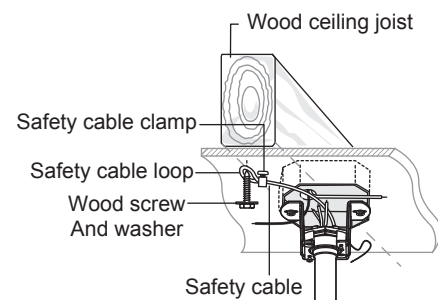

Fig. 4
- 2 Connect the black lead wires from the switch in the cradle A to the black wires in the switch box. Hot input wire to one of the cradle switch leads. Power lead to the fan is connected to the remaining switch lead. (Fig. 4)